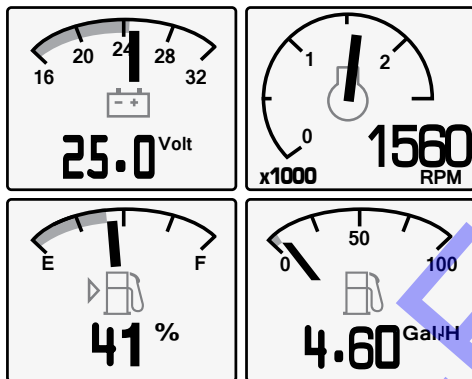

Figure 15. Analog Gauge - Page 2
- If button 5 is pressed to close the fault list screen, an active fault indicator (Ⓐ) will show in the top right of the display (Figure 15) as long as a fault is active. The fault indicator disappears when active fault message stops. The fault list will then be cleared.